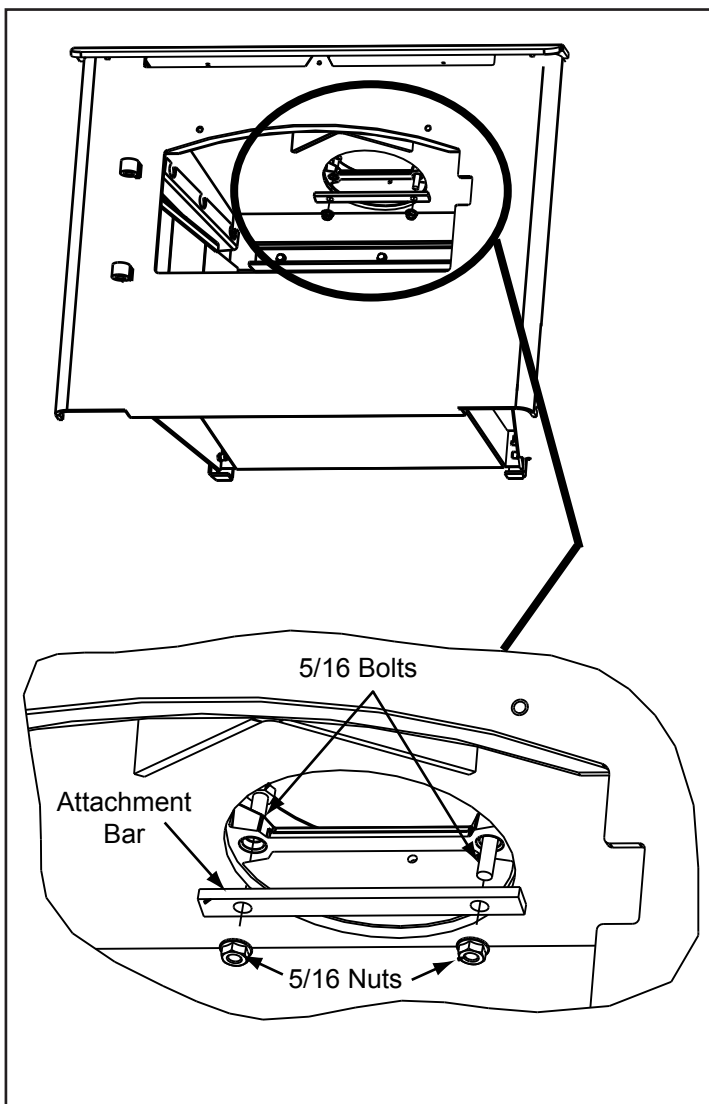

Figure 21.1
2. Reach up through the flue opening and grab the attachment bar and pull down inside flue opening. **Figure 21.1**